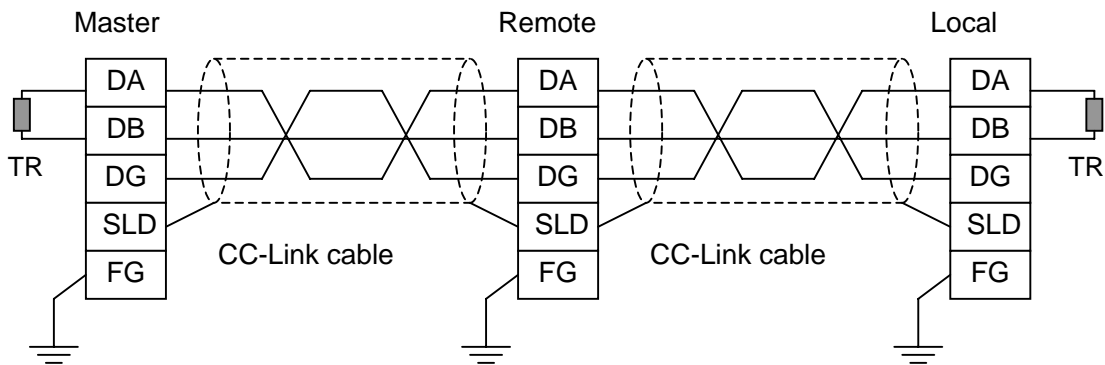

Fig. 4.5 Connection of terminal resistor
- / Refer to Fig. 4.5 on the previous page for how to connect ground.